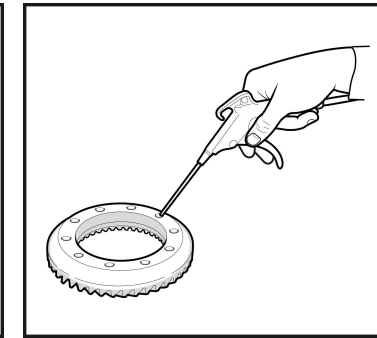

Fig. 14
**2.2** Blow off the back face of the ring gear and the bolt holes using compressed air. (Fig. 14)